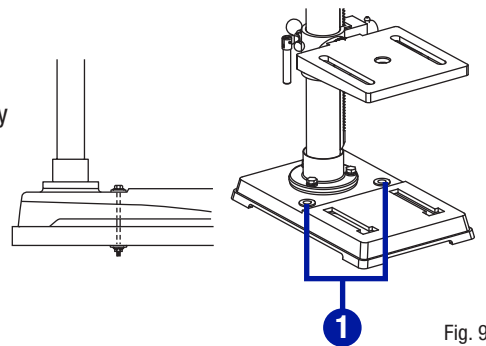

Fig. 9
**MOUNT THE DRILL PRESS (Fig. 9)**